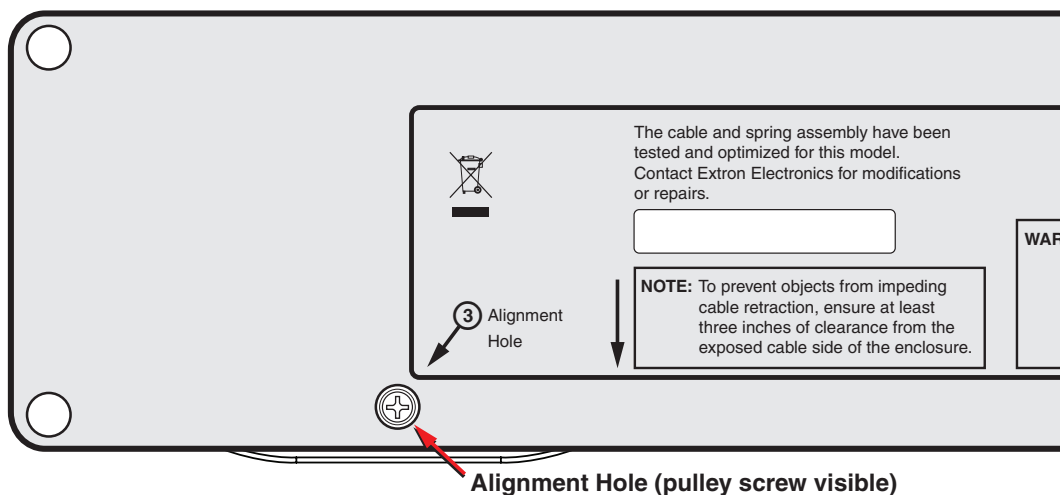

Figure 24. Product Label on Retractor
4. Adjust the cable to align the bottom pulley screw with the alignment hole on the enclosure (designated ③ on the product label in figure 24).